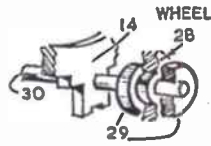

Fig. 4
as accurately as possible and the spokes rounded with knife and glasspaper. Insert the axle (piece 30) through the holes in pieces 14, and to each end add the washers (pieces 29) then the wheels (28) and finally the other pieces (29) which form the hubs (Fig. 4).
The other arm should be completed in the same way, starting from the centre and working towards the hand. Open out two wires for each leg, wrapping from the centre downwards, as shown in Fig. 4, as far as desired. Bend the feet at right angles, and the figure is almost complete. Note that there is sometimes a slight difference in the lengths of pipe cleaners, and you will have to use your own judgment on the ultimate length of the limbs; but they should be proportionate unless your aim is an exaggerated, grotesque figure. Although unnecessary, you may sew in a few stitches to represent the mouth and eyes, using appropriate thread.